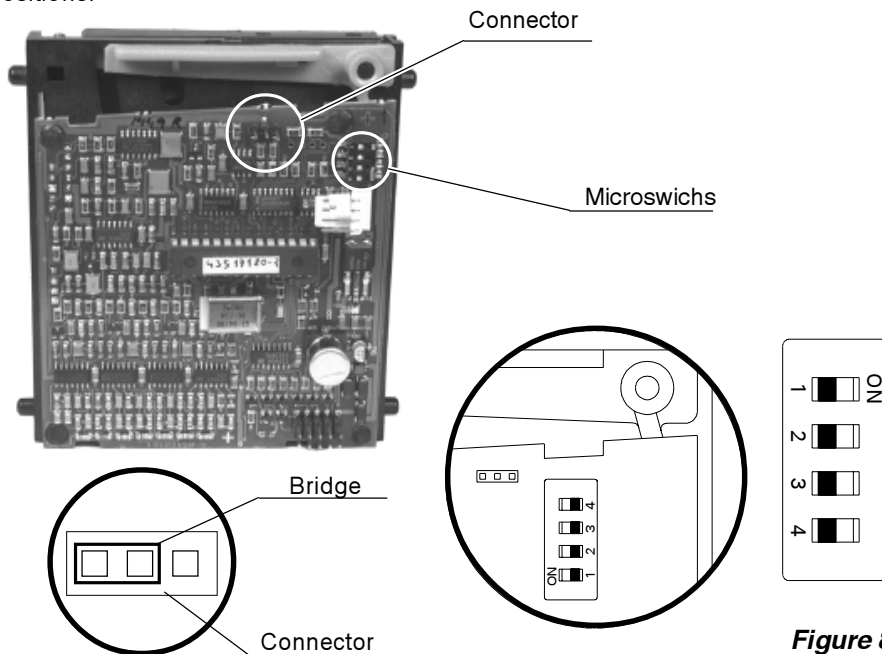

Figure 8
-Using a bridge, connect the two terminals on the left of the connector located in the upper rear part of the selector, as indicated in **figure 8**. The noise caused by activation of the obturator coil can be heard when the two terminals are connected indicating that it is prepared to allow programming for tokens.
-In order to program another token, proceed the same way, but place the microswitch (see **figure 8**) in the opposite position from when programming the first token. This means that if it was in the ON position, place it in the OFF position, or vice versa. Once programming is finished for this token, return the microswitch to its original position.